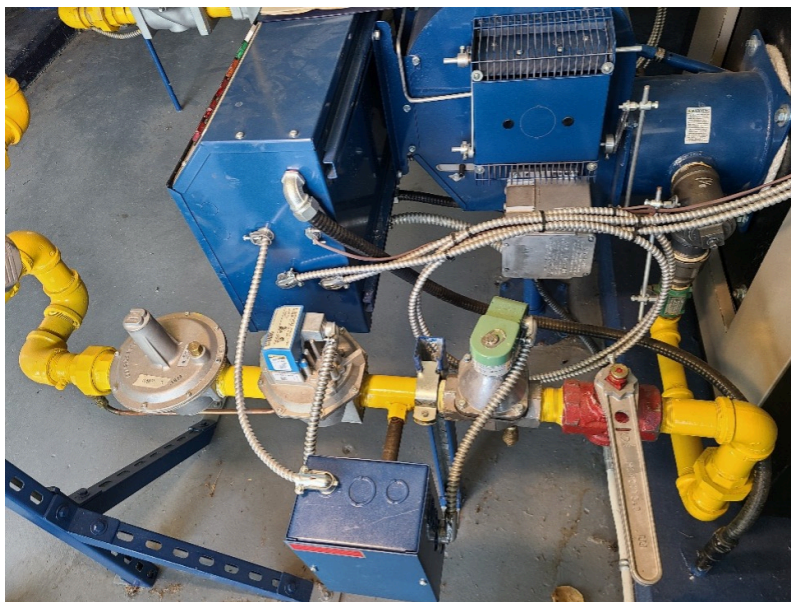

Figure 12. Field assembled valve train
The series of controls and components from the appliance main shut-off valve to the appliance burner is called the valve-train or manifold assembly. The components of the valve train are used to manually and automatically start, stop and regulate the gas flow to the appliance. On larger gas appliances, generally over 400 MBH, the valve train components downstream of the manual shut-off valve (Figure 12) will be field assembled as they are not an integral part of the appliance. For these installations the requirement for valve train components and their assembly are identified in the separate CSA B149.3 gas code.
- Figure 12. “Field assembled valve train” by Rod Lidstone is licensed under a CC BY-NC-SA licence (<https://creativecommons.org/licenses/by-nc-sa/4.0/deed.en>).